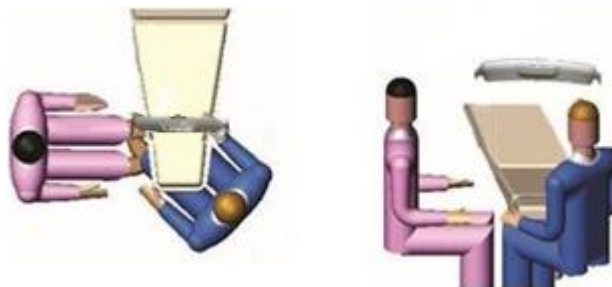

Figure 85: Set-Up for mandibular right, middle, and maxillary right and middle implantations
- For procedures in the quadrants of mandibular left, and maxillary left Implantations position the camera above the assistant (3:00 position on a clock), see ***Figure 85: Set-Up for maxillary and mandibular left implantations***, on page **132**.